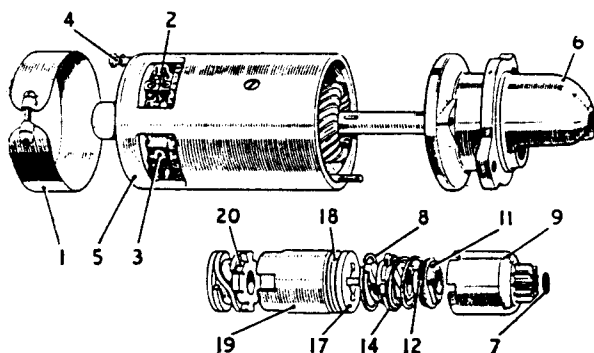

FIG. 11
**Note :** On the latest models (Fig. 11), the locating nut is secured by caulking the keyway provided in the shaft, therefore no peg (10) is fitted. When re-assembling, it will be necessary to fit a new locating nut.
**Note :** The instructions 4b and 4c apply only to the rubber-type drive incorporated on the latest type of starter motor, as illustrated in Fig. 11.
- 4b. Slide the sleeve and control nut (14) off the shaft. Remove the sleeve coupling (17) and friction washer (18). The rubber coupling (19) can now be removed from the armature shaft.
- 4c. Remove transmission plate and cushioning spring assembly (20) from the key in the armature shaft. Re-assemble by reversing the above procedure.